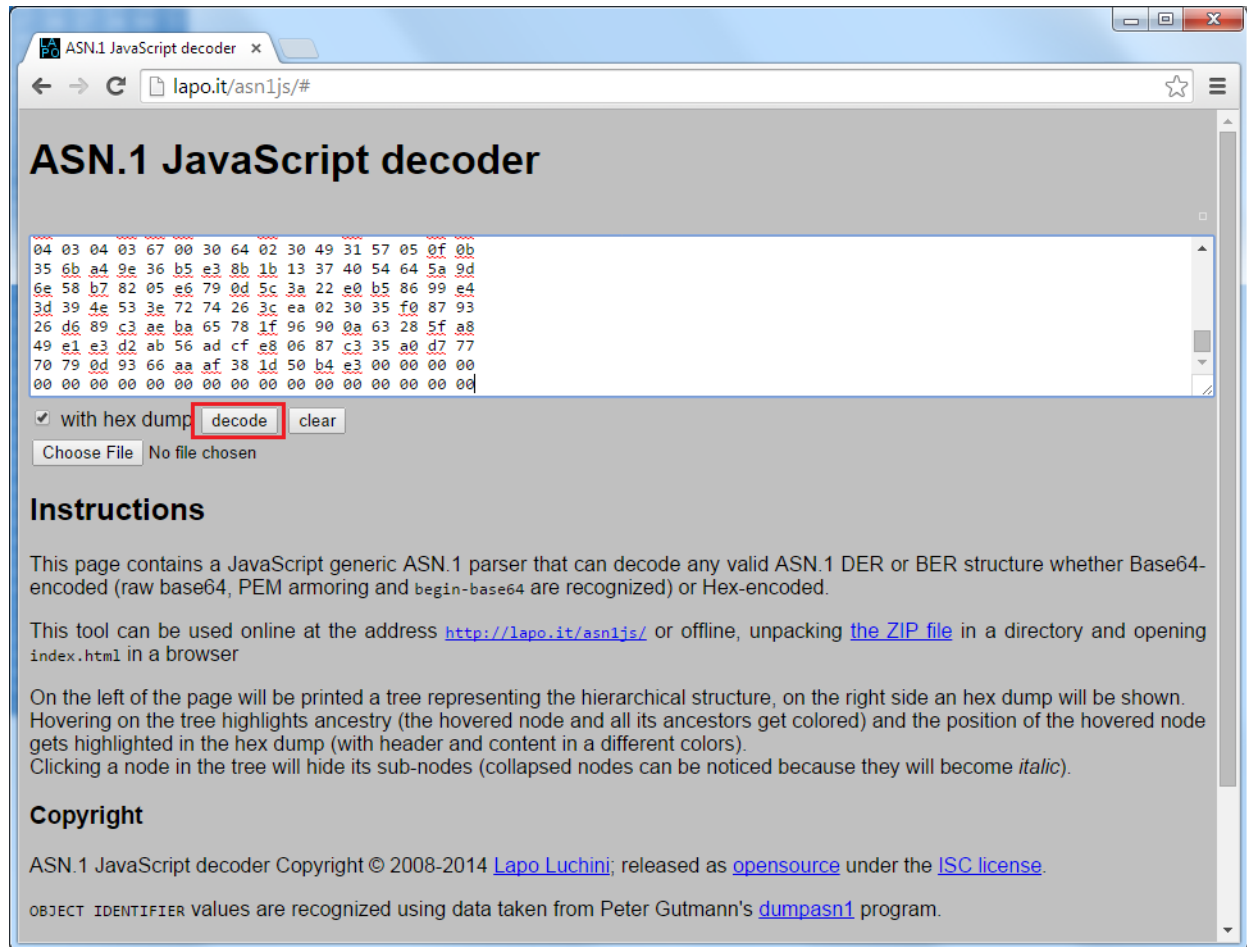

Figure 11 • Online Decoder with Decode Option
3. Copy the 768 Bytes HEX format device certificate from any serial terminal program and paste it in the online decoder, as shown in the Figure 11.